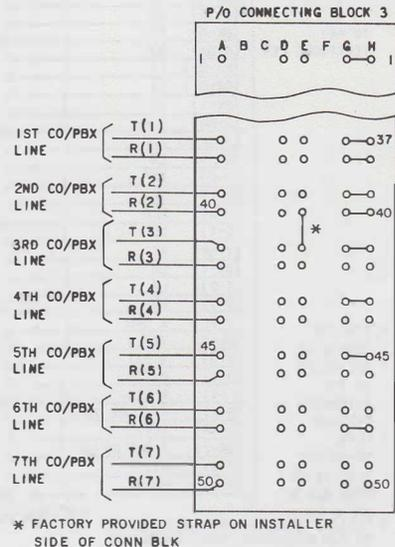

Fig. 25—Connections for Incoming CO/PBX Lines
- (6) Unlatch and open carrier assemblies.
- (7) Terminate the incoming CO/PBX lines on connecting block 3 as shown in Fig. 25.